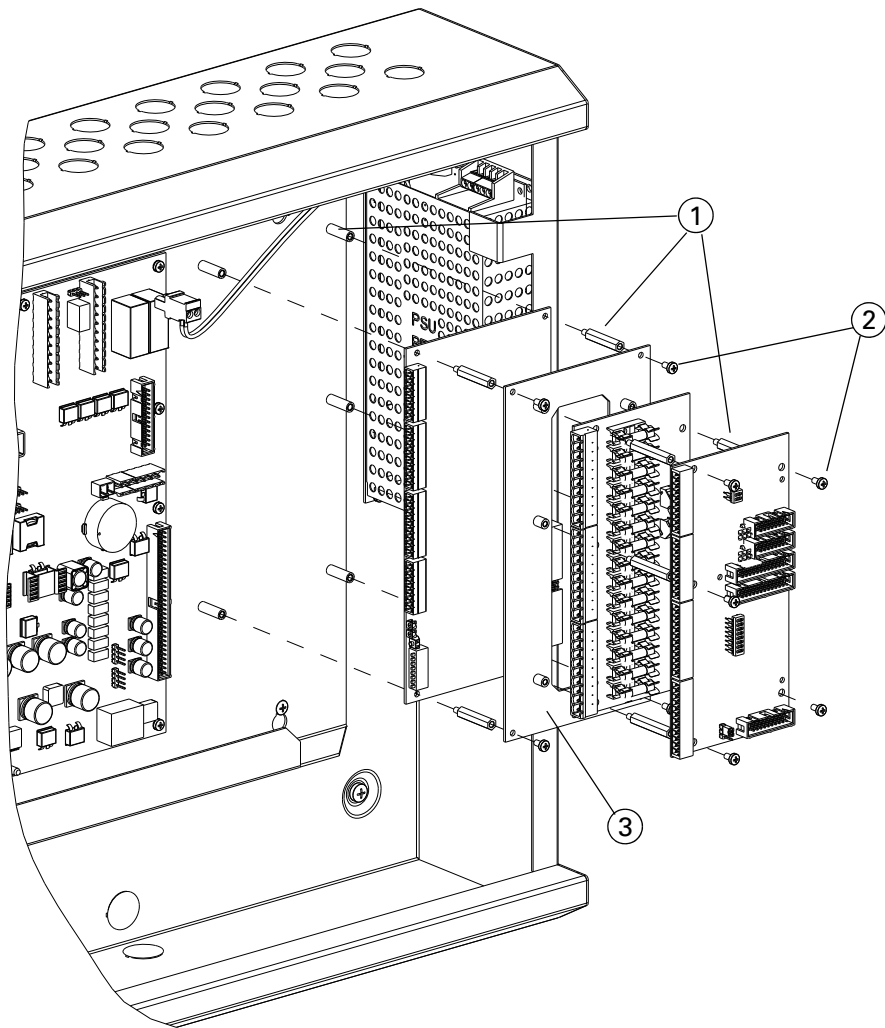

Fig. 30: Mounting Boards on a FC702S Panel
three of these boards can be fitted. Ensure that you fit the larger boards (such as the PNI800) before small boards (IOB and FB800). Refer to Fig. 30 and complete these steps:
- 3 Put the first board on top of the pillars provided (item 1 in Fig 30). Secure the board using washers and screws if this is the only board being used, or a pillar, if you are inserting more boards. If fitting a PNI800, connect the 50way connector closest to the FC-FI to the connector on the PNI800 PCB. If you fit a second board of this type, use the next 50way connector for this board.
- 4 If you are using one or more small boards (for example, the IOB800 or FB800), use the adapter plate supplied (item 3 in Fig. 30). Screw the adapter plate into the last big board in the sequence, or directly onto the back wall of the housing panel if there are no larger boards. Use the washers and screws provided.